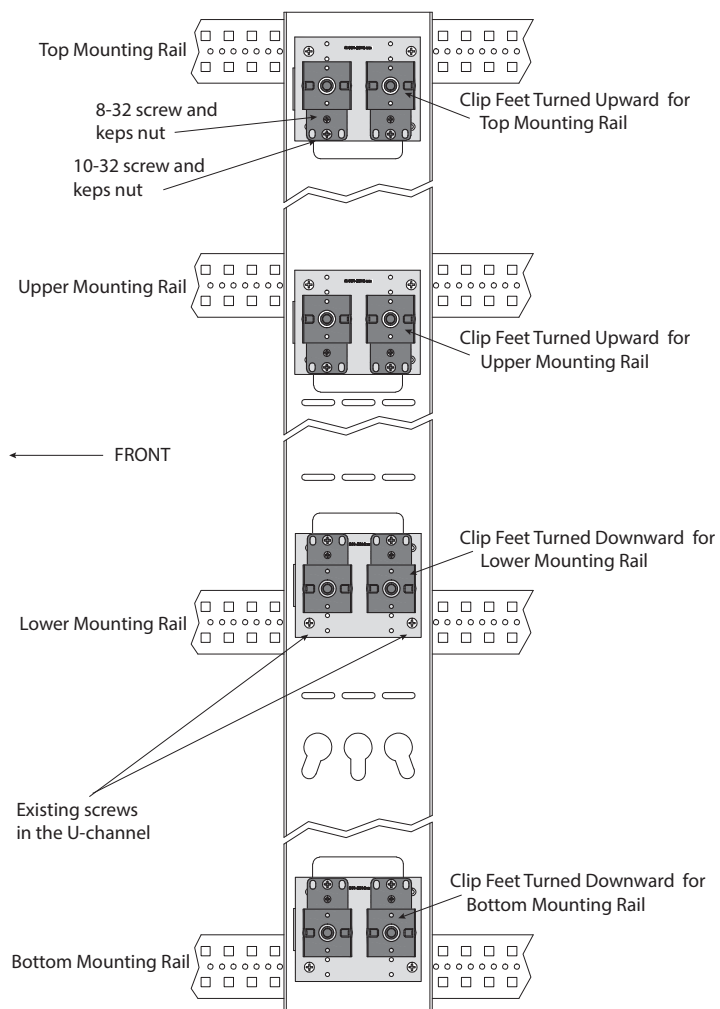

Figure 22. Multiple 902 mm Inboard
- **Multiple (up to four) 904 mm ePDUs inboard.** Outlets facing toward the other side of the rack, go to Figure 22 on page 25.